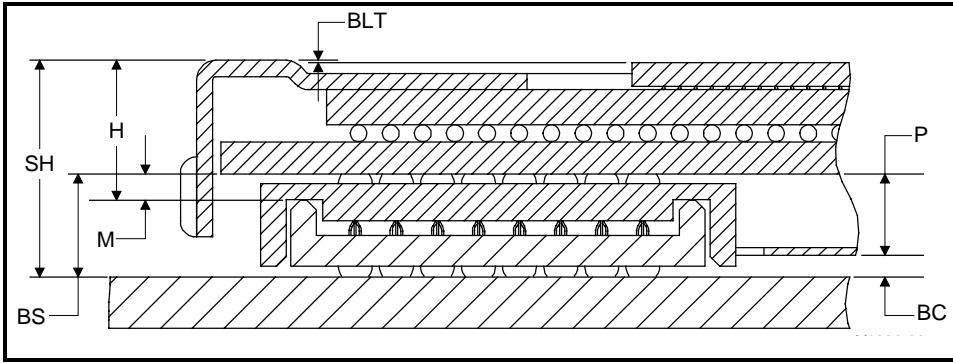

Figure 5.6 Cross Sectional View with Vertical Dimensions
1. See Table 5.3 and Figure 5.6 for the definitions and illustration of processor height, plug height, bottom cover height and bond-line thickness.
2. Processor height, plug height, and bond-line thickness are the only guaranteed vertical dimensions. The other dimensions shown in Figure 5.6 are dependent on the receptacle height. Refer to the *Mobile Pentium® II Processor Mini-cartridge Mechanical and Thermal User's Guide* for information on the effect of receptacle mounting technique on these dimensions.
Table 5.3 defines the Mobile Pentium II processor dimensions illustrated in Figure 5.6. The assembly stack height (SH), board-to-board spacing (BS) and bottom clearance (BC) dimensions are dependent on